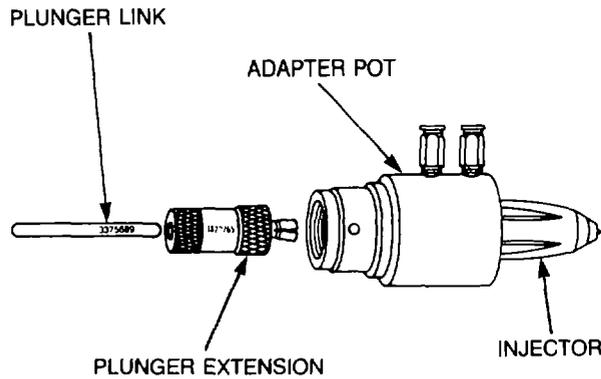

Figure 114 — Plunger Link, Extension, Adapter Pot and Injector
- h. Unclamp and remove the injector and adapter pot from the injector leakage tester, then remove the link and plunger extension from the injector. Remove the injector from the adapter pot (see Fig. 114).